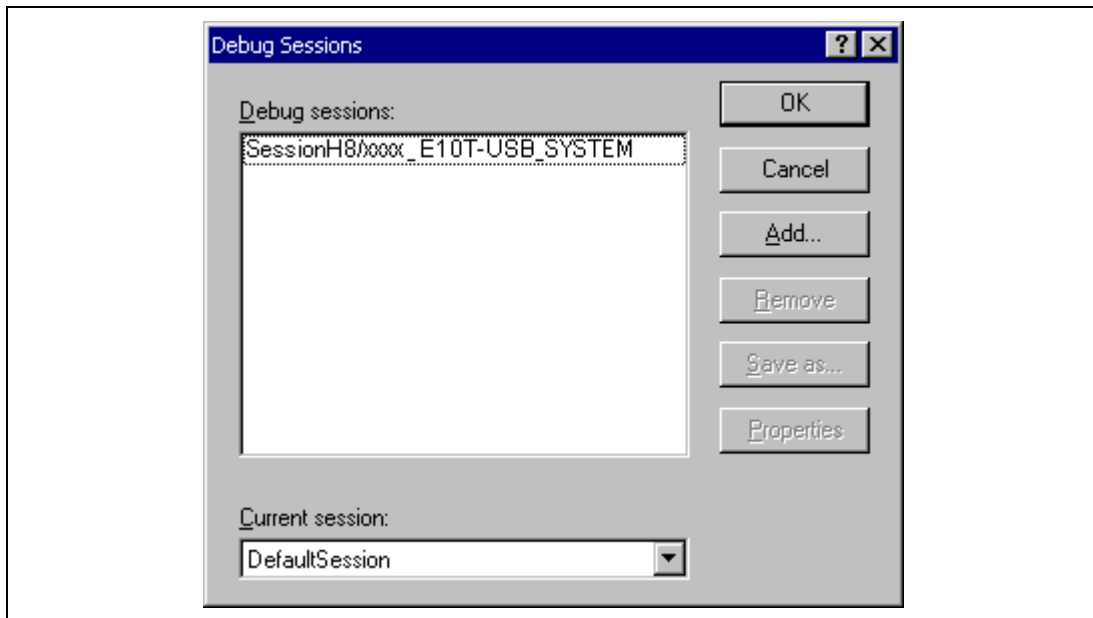

Figure 4.28 [Debug Sessions] Dialog Box
1. Select [Debug -> Debug Sessions...]. This will open the [Debug Sessions] dialog box (figure 4.28).
1. Select [Debug -> Debug Sessions...] to display the [Debug Sessions] dialog box (figure 4.28).